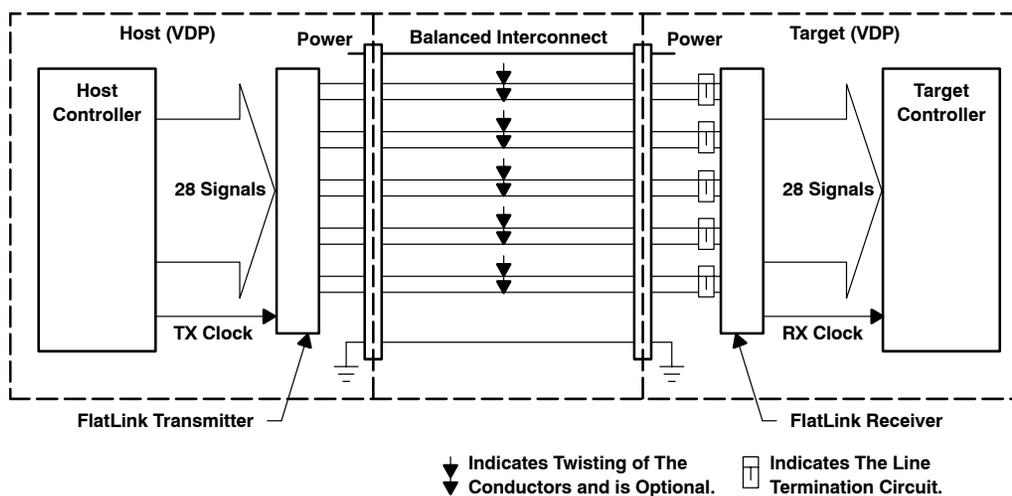

Figure 1. Typical Connection of One FlatLink Transmitter and One Receiver.
Figure 1 shows a basic FlatLink system with one transmitter connected to one receiver.
- The system diagram in Figure 1 shows locations of the terminations.